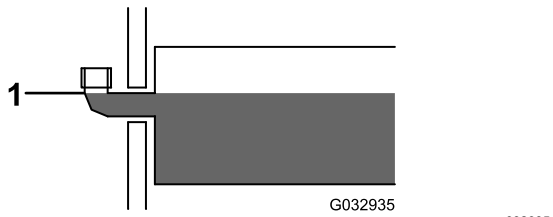

Figure 37
3. Remove the fill cap from the hydraulic reservoir (Figure 37).
4. Slowly fill the reservoir with BOSS high-performance hydraulic fluid to the bottom of the fill elbow (Figure 37).